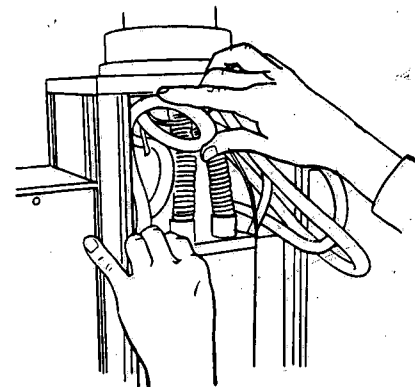

Figure 6-18. Inserting Shaped Lines
9. Place (but do not force) the shaped line into the cavity as shown in Figure 6-18.